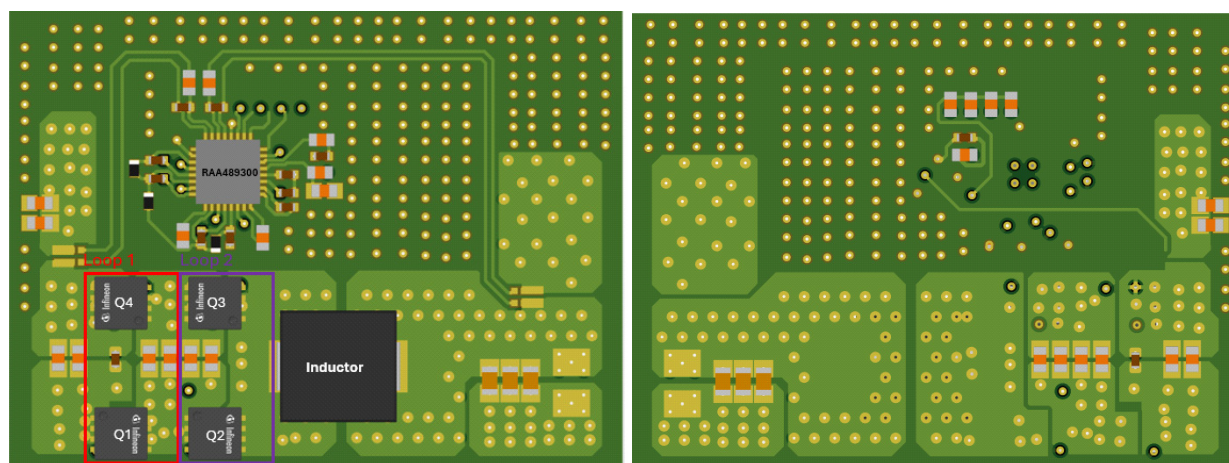

Figure 15. Top Side (left) and Bottom Side (right) of the Example Layout
The two main commutation loops that must be minimized are highlighted in the example power stage layout in Figure 15.
- Loop 1 encompasses the input capacitors, the highest side MOSFET (Q4), the flying capacitor, and the lowest side MOSFET (Q1). The impedance on this loop can be minimized by arranging the components in Figure 15. The impedance can further be lowered by placing low ESR and ESL capacitors close to the drain terminal of Q4 and the source terminal of Q1.
- Loop 2 consists of the flying capacitors, Q3 MOSFET, and Q2 MOSFET. This loop can be minimized when arranged as shown in Figure 15. Generous use of stitching vias is recommended along with power planes when connecting the flying capacitors to the MOSFETs.